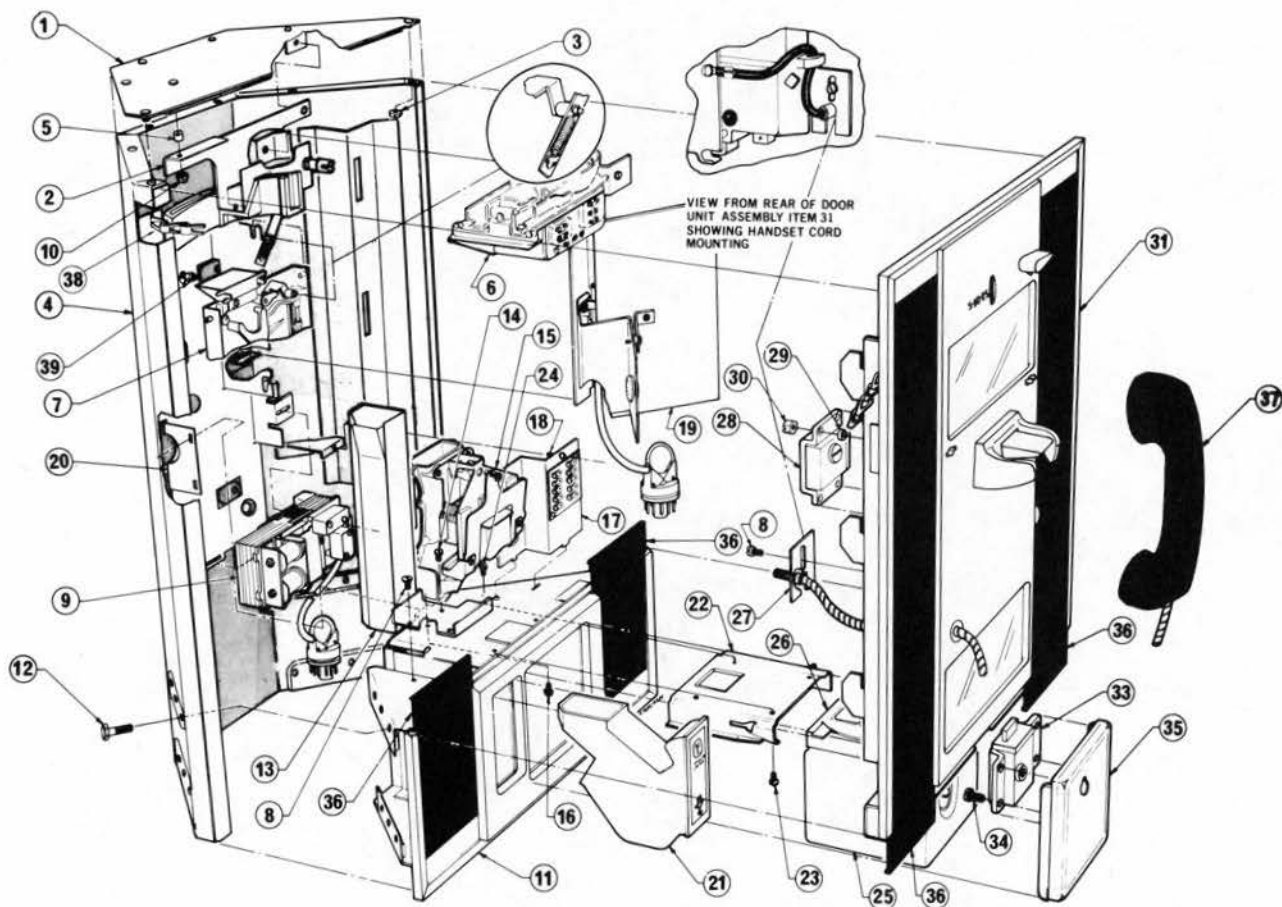

Fig. 10 — QSD300A and QSD2300A Coin Telephone Sets —
4.01 An exploded view of the QSD300A and QSD2300A coin telephone sets is shown in Fig. 10 with the parts keyed by numbers to